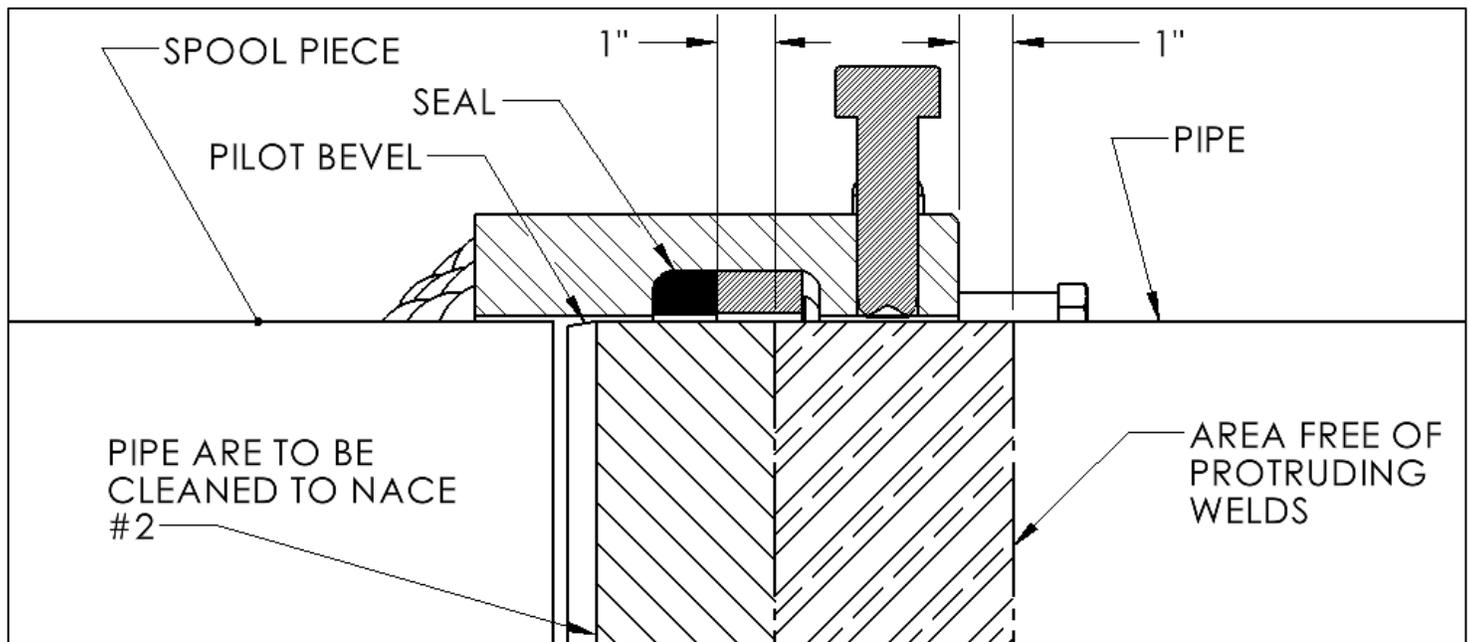

Figure 3
3. The area around the location where the seal will come into contact with the pipe must have a finer cleaning. A near-white finish, as noted in SSPC-SP10 / NACE No.2, is preferred in and around the seal area as shown in Figure 3. The cleaner the pipe surface, the more positive the seal. Any longitudinal, circumferential, or spiral weld must be ground flush with the OD of the pipe where the Half Weld+End will slide over the end of the existing pipe. It is recommended to clean the pipe at least 1" past the end of the fitting as shown in figure 3.